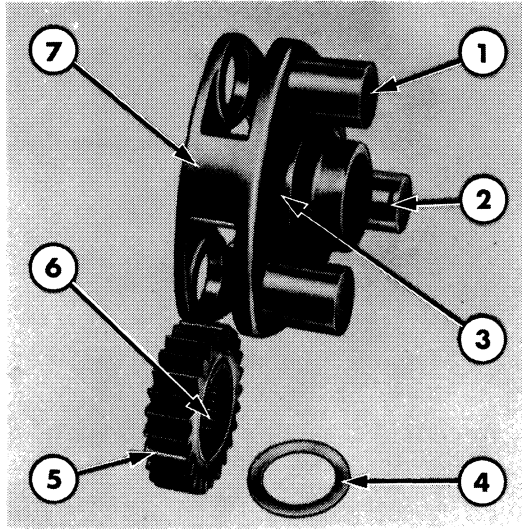

Figure 18
2. Install each gear and thrust washer in the carrier and position the pins with the grooves towards the retainer, Figure 18.